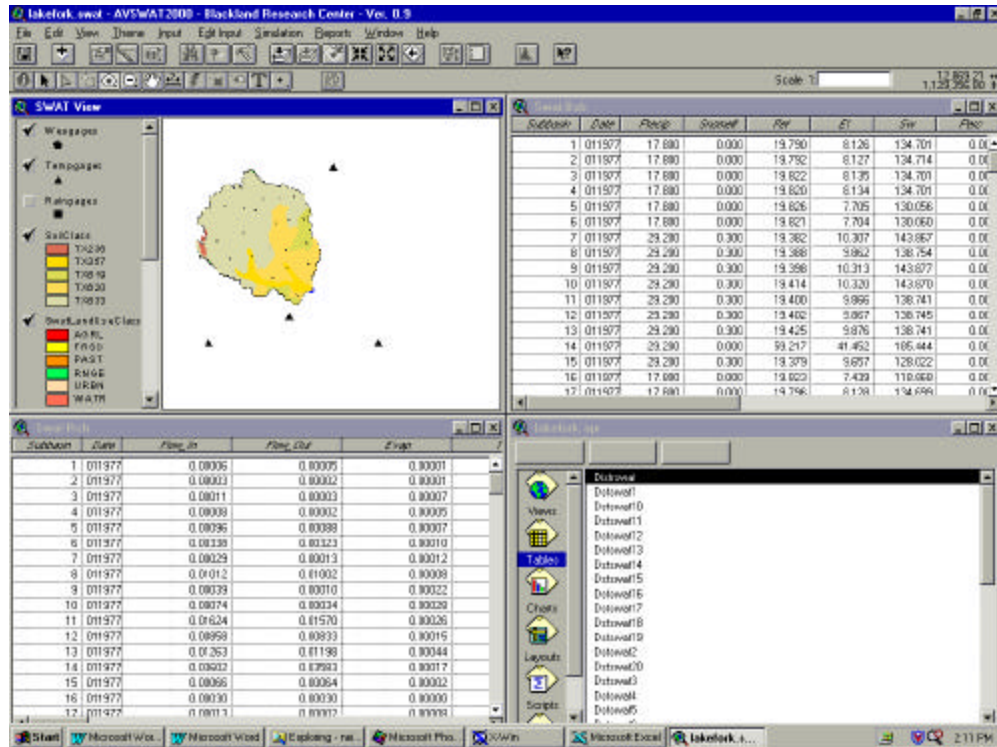

Figure 15.43
2. The SWAT output data is loaded into dBASE tables and displayed (Figure 15.43).